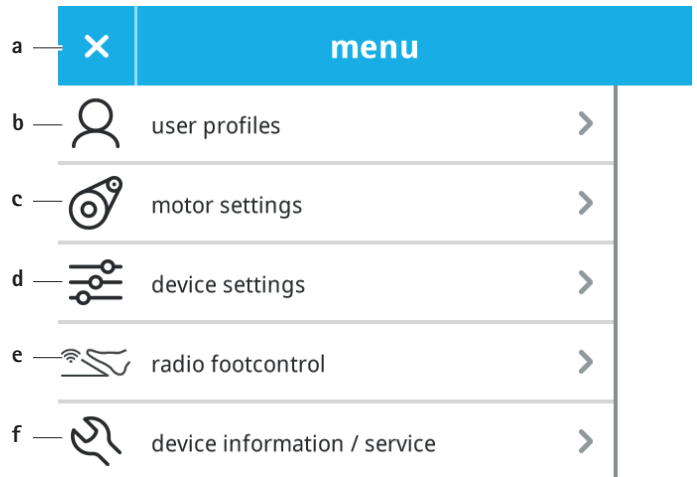

Fig. 8 System settings menu
- Call up the system settings menu: Activate the button for the system settings menu **h**, see Chapter Fig. 1. The system settings menu opens, see Fig. 8.